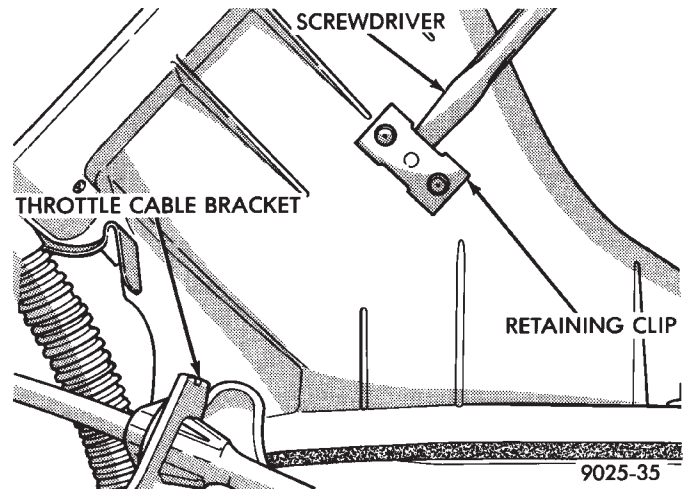

Fig. 4 Removing Sensor Clips
(1) Disconnect vacuum hoses from sensor, remove retainer clips (Fig. 4), and discard (new clips are supplied with a new sensor).
(2) Remove sensor with gasket and discard.